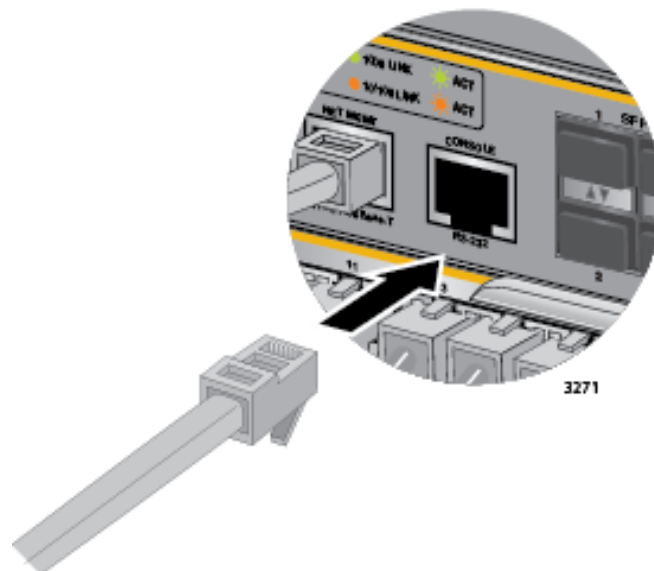

Figure 126. Connecting the Management Cable to the Console RS-232 Port
1. Connect the RJ-45 end of the management card included with the AT-SBx81CFC400 Controller Fabric Card to the Console RS-232 port on the front panel of the AT-SBx81CFC400 Control Card, as shown in Figure 126. If the chassis has two controller cards, you may use the Console RS-232 port on either card to establish a local management session with the chassis.